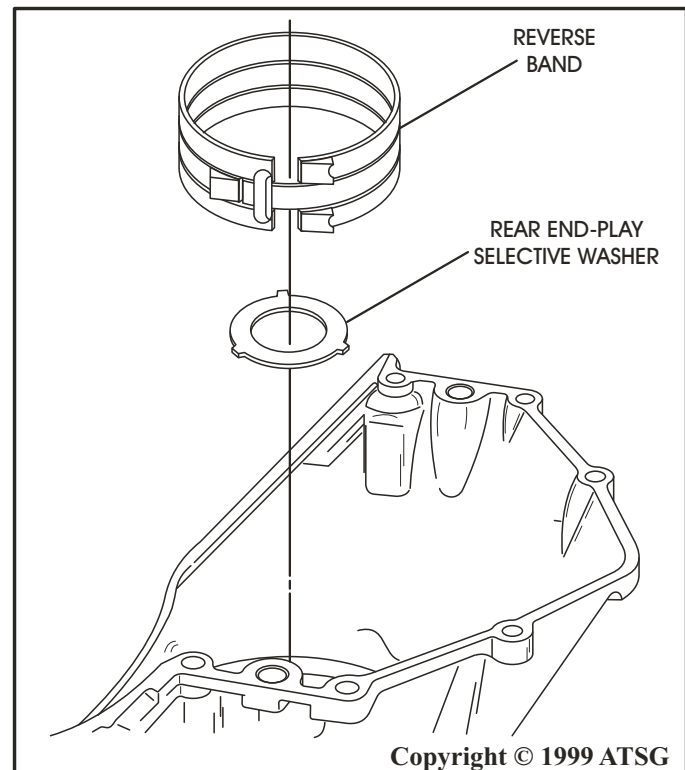

Figure 104
1. Install the completed case assembly into the fixture and rotate so that the bell housing is facing up, as shown in Figure 104.
2. Install the steel selective thrust washer with the tabs engaged into the slots in case, and retain with TransJelÖ (See Figure 104).
3. Install the reverse band into the case and ensure that it engages on case lugs (See Figure 104).